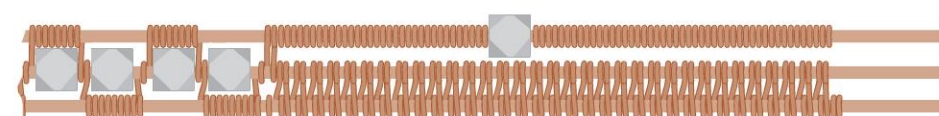

figure 5
- 20 Slide a bead on Frame Wire 3, then make a coil on the 16-gauge wire mandrel the same length of the weave made in Step 18 for about 1" (2.5 cm). Remove the coil from the mandrel and trim wire tails, then slide the coil onto Frame Wire 3 (Figure 5).